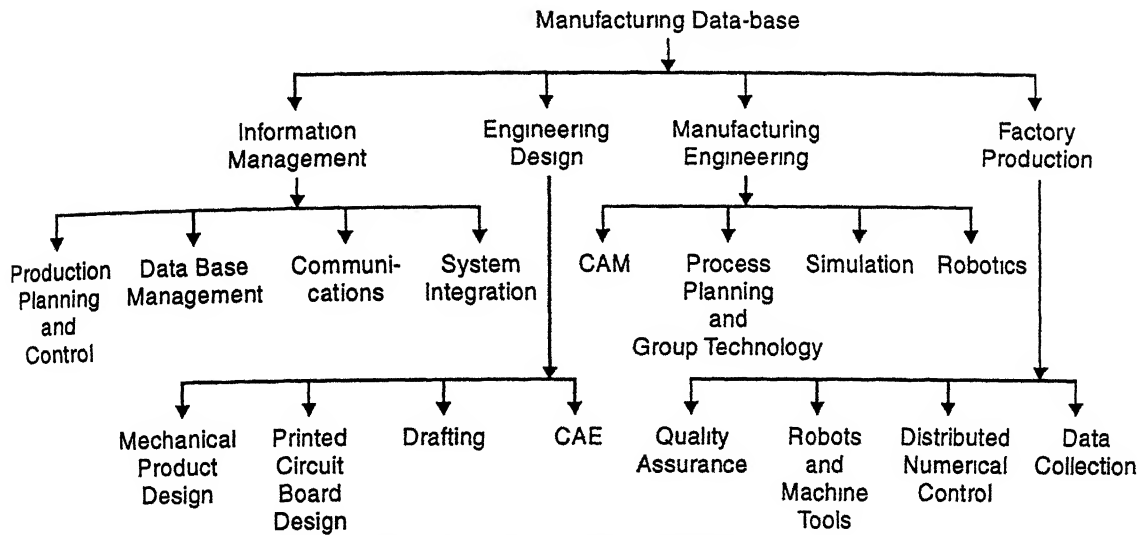

Fig. 18.3. Generic CIM architecture
**Ans.** CIM involves a great many functions within an organisation. The complexity of this relationship is illustrated in Fig. 18.3.